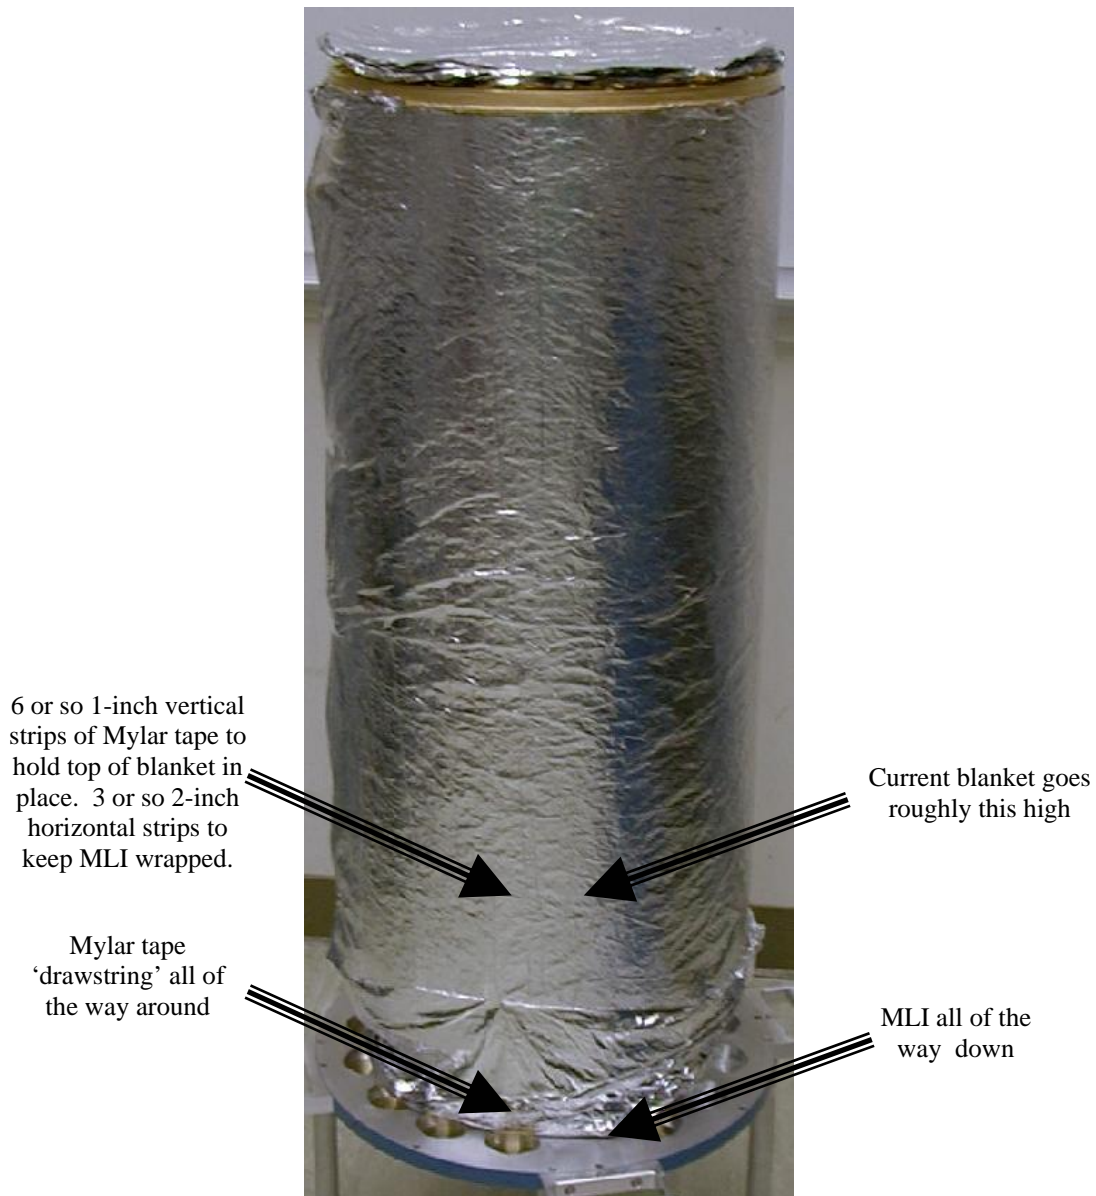

Figure 1. LN₂ multi-layer insulation (ca. 1999).
2. **Install multi-layer insulation (MLI) ‘diaper’.** The MLI blanket should be thick (approx. 20 layers) and approx. 20 inches wide. Wrap blanket around base of LN₂ shield and fiberglass support ring as shown in Figure 1. Keep inner free end away from filter wheel shaft to avoid it getting caught. Use aluminized Mylar tape to hold MLI in place.